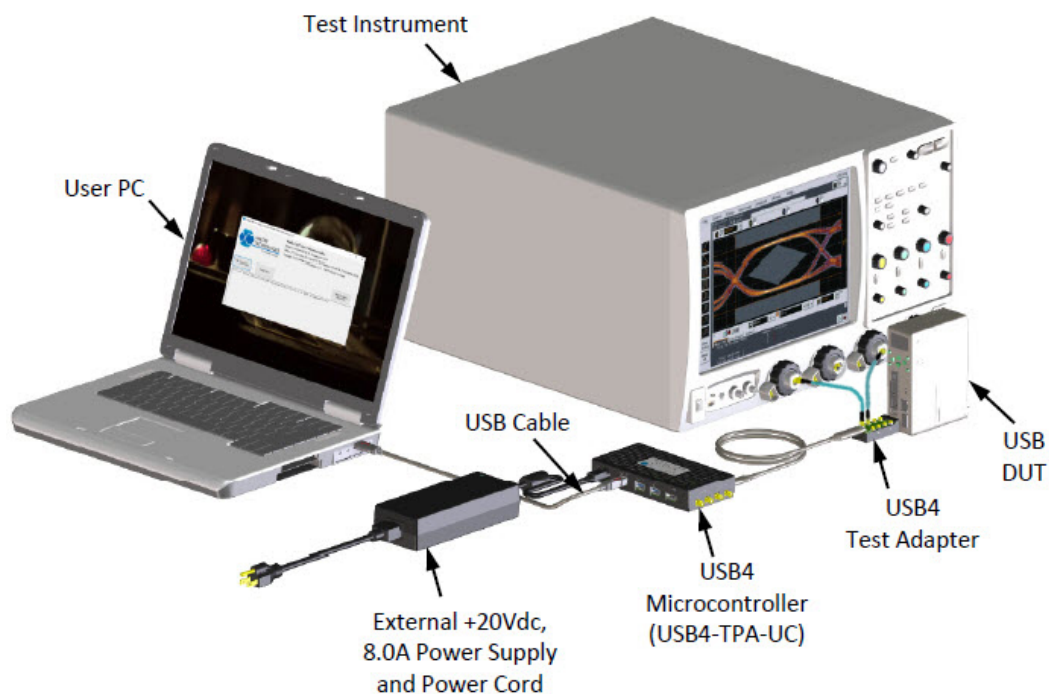

Figure 128 Transmitter TP2/TP3 Test Setup
- 1 For the physical connection between the DUT & the Oscilloscope, see Figure 128 and for configuring the USB4 Test Application, see "Setting up the USB4 Test Application" on page 46.
- 1 Connect the DUT to the Oscilloscope as shown in the Figure 128.